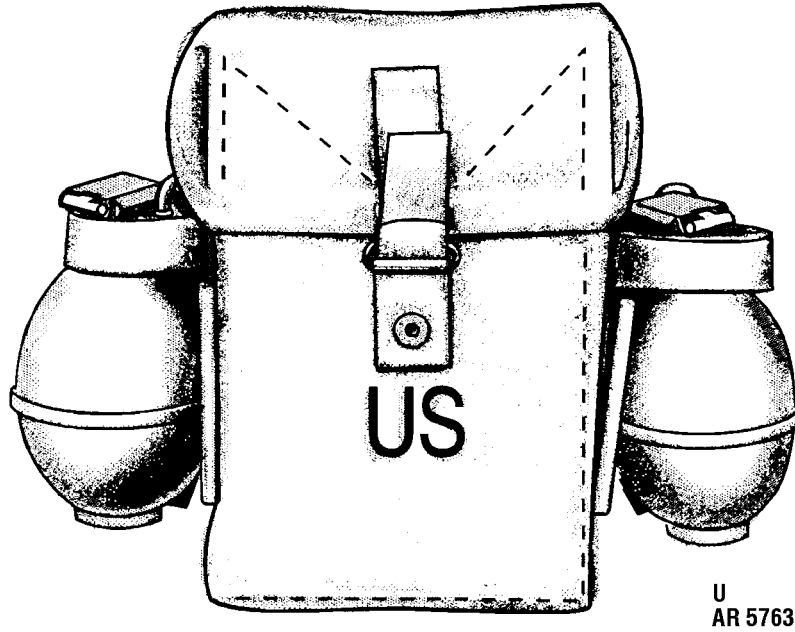

Figure 1-6. Ammunition pouch.
- d. Carry hand grenades in ammunition pouch (fig. 1-6). (This pouch can carry five fragmentation hand grenades. Two grenades are strapped by the loop and three additional grenades are carried inside the pouch.)